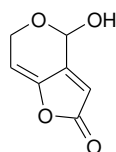

Figure 1. Chemical structure of Patulin, CAS N° 149-29-1
**Patulin** [4-hydroxy-4H-furo[3,2-c]pyran-2(6H)-one] is a mycotoxin produced by a variety of molds, particularly *Aspergillus* and *Penicillium* species (see figure 1). It is commonly found in rotting apples, and the amount of patulin in apple products is generally viewed as a measure of the quality of the apples used in production.
Figure 1. Chromatograms obtained after AFFINIMIP® SPE Patulin clean-up of apple mango juice spiked at 20µg/kg (blue) with Patulin or not spiked (red). In green, Patulin solution at 50ng/mL prepared by dilution of a 100µg/mL Patulin standard solution (REA-PAT-1mL) in mobile phase.